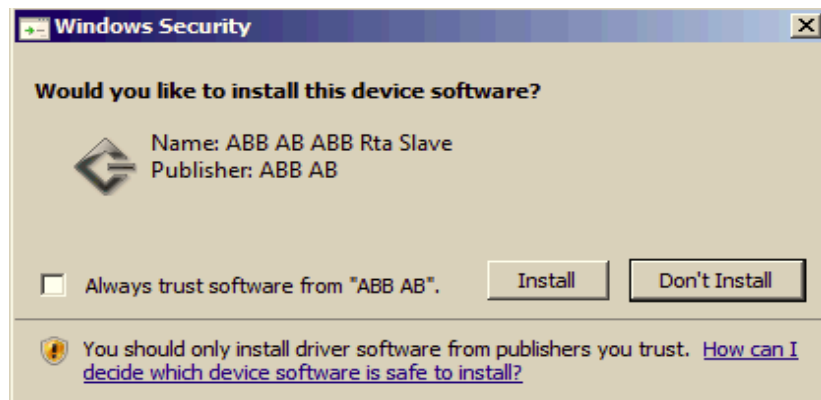

Figure 35. Windows Security Dialog Box
- e. **Windows Security dialog box:** The Windows Security dialog box shown in Figure 35 may appear once if PU515 was selected and twice if PU410 was selected. Click **Install this driver software anyway** to continue.